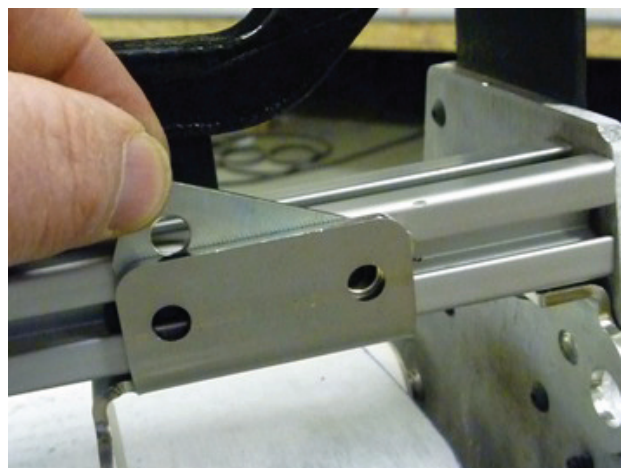

Figure 13
13. Insert the shim plate behind the tab on the new bracket. Refer to *Figure 13*.
i **NOTE:** The shim plate can be placed on the opposite (outside) surface of the tab on the new bracket shown in *Figure 13*, if a height adjustment is needed. This should be done **ONLY** if the lane machine drive wheels lose traction because unlevel lanes or pin decks contact the transition wheels.